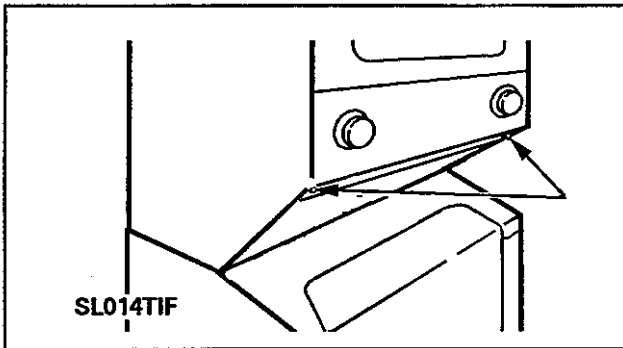

Figure 4-5
3. Remove two screws under the console. *(Figure 4-5)*